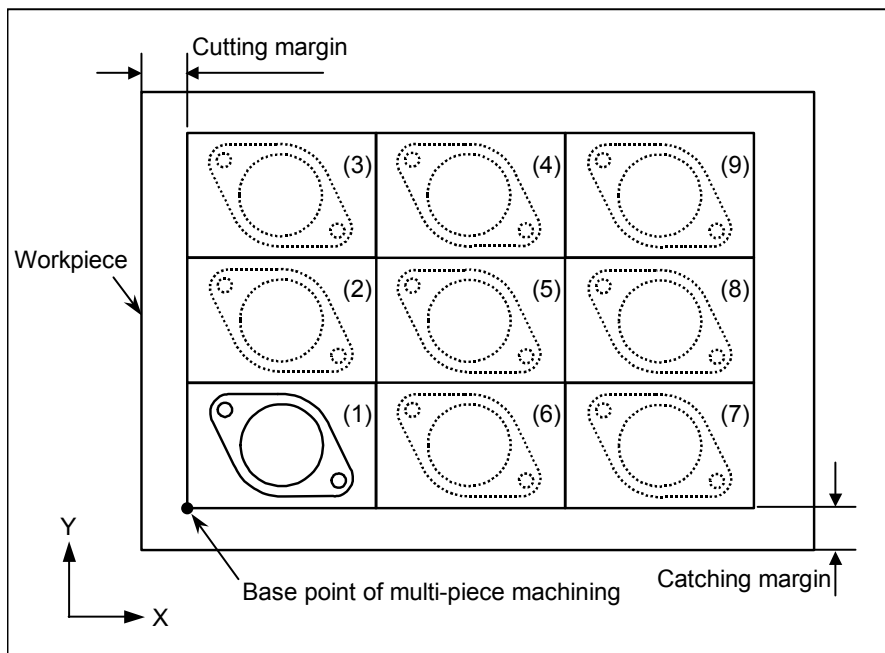

Fig.15.5.1 (a) Multi-piece machining
Machining commands to punch on a sheet of material must be specified on the product part at the lower left (1). The point at the lower left of the set of multi-products (point B shown in Fig.15.5.1 (a); called as “Base point of multi-piece machining” hereafter) must be specified prior to the machining commands to punch on a product part by G98 as absolute co-ordinates under the system of co-ordinates specified using G92 command. In the G98 command, the X-axial and Y-axial lengths of one product and the numbers of products in the directions of X-axis and Y-axis must be specified.